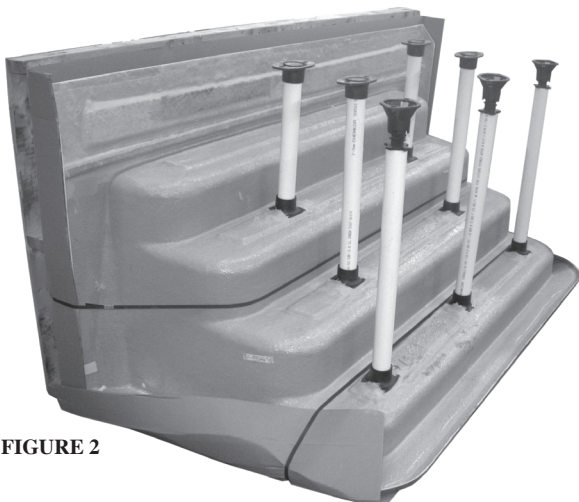

FIGURE 2
2. Put cardboard or similar padding on the ground and lay the top surface of the step on it. (Figure 2)
3. As shown in Figure 2 insert the support poles completely into the designated receptors on the tread supports. Step support pads should be attached to the bottom (ground end) of the poles except those supporting the top step; adjustable foot pads should be attached to the bottom (Ground end) of the poles supporting the top step.(2' in-Wall Ladders do not require bracing)